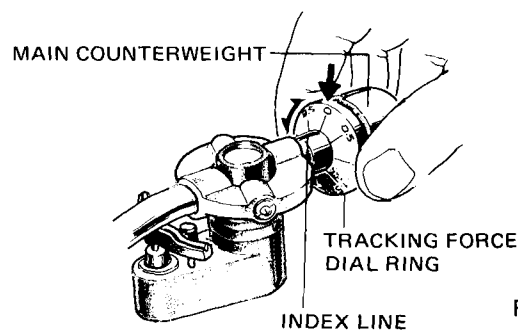

Fig. 10
5. After confirming perfect adjustment in step 4, with care taken not to move the main counterweight, turn the tracking force dial ring until the "0" reading aligns with the white index line engraved on the tonearm (Fig. 10).